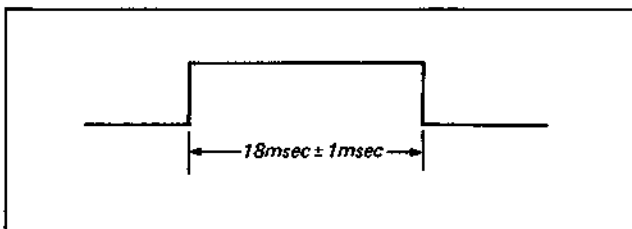

Fig. 4-3-11. Slow speed adjustment
- (1) Set up the slow-motion mode.
- (2) Connect the oscilloscope to the emitter of Q6.
- (3) Adjust RV6 for a pulse width of $18\text{ msec} \pm 1\text{ msec}$. (See Fig. 4-3-11.)